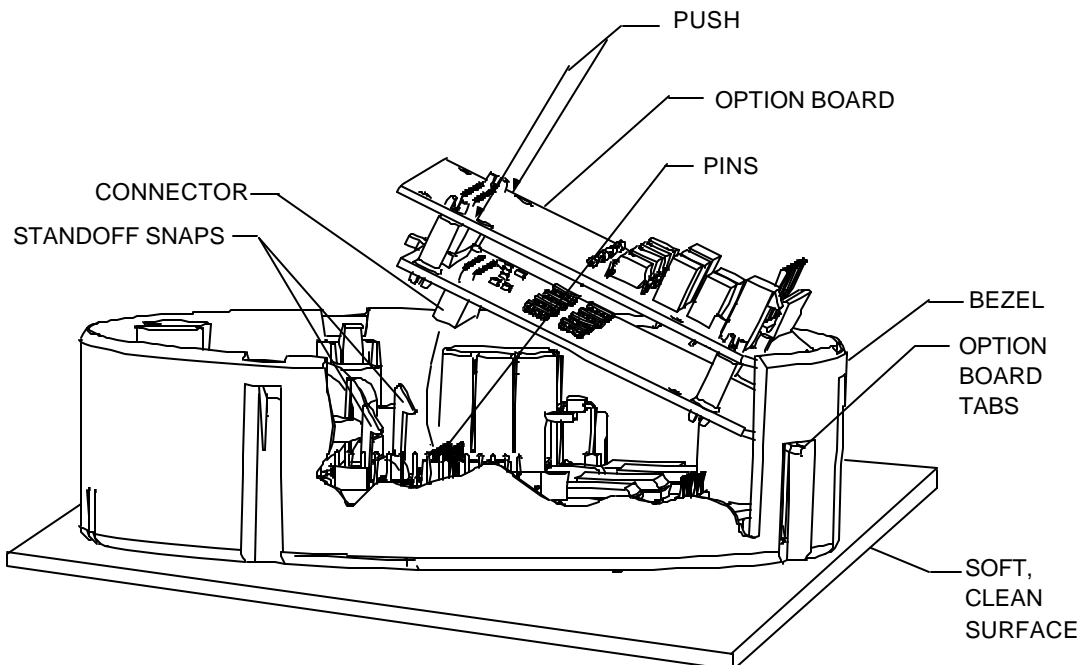

Figure 2-5 Load Profile & I/O Option Boards
3. On topside (Printed Board No.) of Load Profile board, insert the four PC board spacer posts into the four holes shown in figure 2-5.